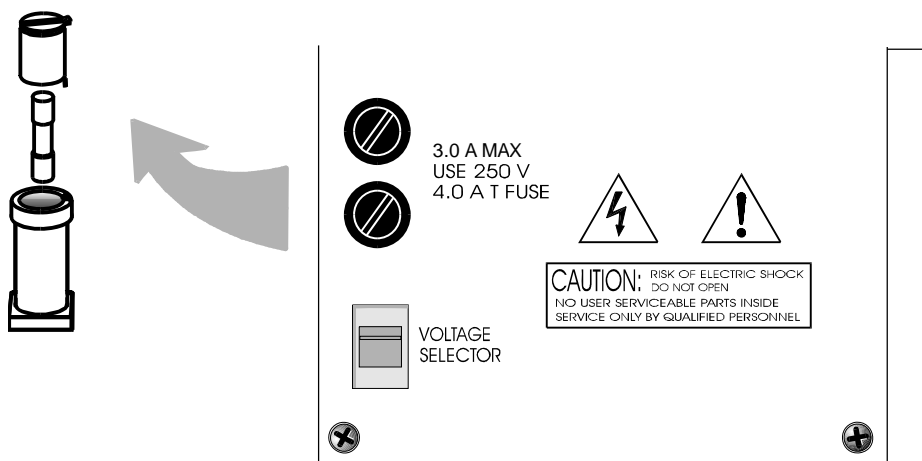

Figure 5-3: Removing Fuse Cap and Fuse from Holder
The 3000PB requires two 5 × 20 mm, 4 A, T type (Slow Blow) fuses. The fuses are located inside the main housing on the Electrical Connector Panel, as shown in Figure 5-3. To replace a fuse:
2. Place a small screwdriver in the notch in the fuse holder cap, push in, and rotate 1/4 turn. The cap will pop out a few millimeters. Pull out the fuse holder cap and fuse, as shown in Figure 5-3.